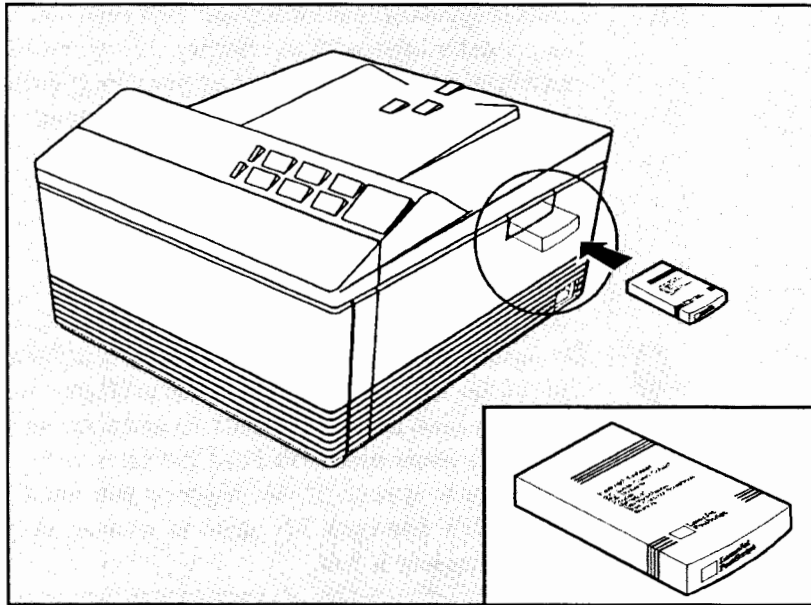

Figure 6-13. Inserting a Cartridge
3. Slide the cartridge into the slot on the right side of the printer and push until the cartridge is firmly in place (figure 6-13). You should hear and feel the cartridge snap into place. **Don't be afraid to push very hard.**